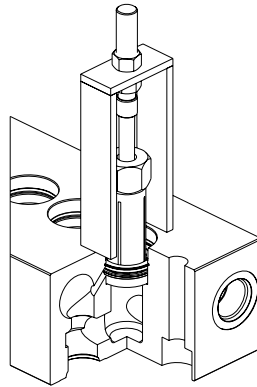

*Fig. 9: Orientation for Manifold Seal Servicing*
Clean and inspect all valve plugs (47) prior to reassembly. If there is a problem, contact your dealer. Once all valve plugs (47) are clean and dry, install new valve plug o-ring (46) onto valve plug (47). Install the valve spring (45) onto the valve plug (47), it should now be attached to the plug. Press the valve (44) onto the valve spring (45). Complete valve assembly shown in Fig. 9.